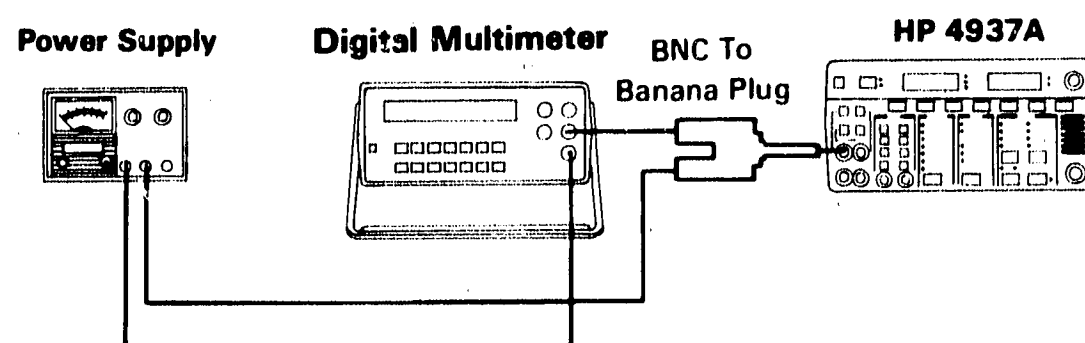

Figure 5-1. Hold Circuit Adjustment
1. Connect equipment as shown in figure 5-1.